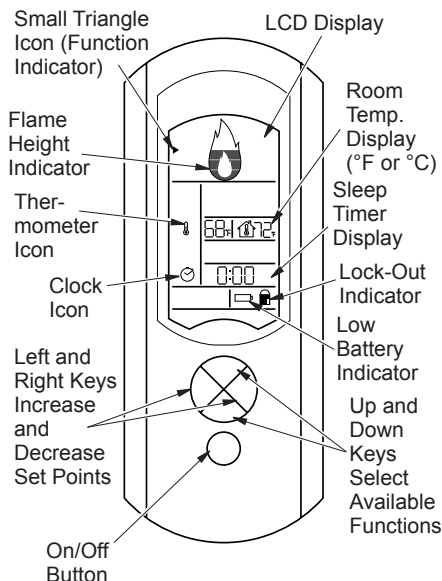

Figure 29 - Remote Control
12. Press the up or down key until the small triangle is to the left of large flame icon at the top of LCD display (see Figure 29, page 20). Press the left or right key to set the desired flame height.
2. Press the ON button on remote control (see Figure 29, page 20). Wait 5 seconds to send a command to appliance.
1. Press the up and down key until the small triangle is to the left of the clock icon (see Figure 29).
2. From time 0:00, press the left key 10 times. The display will then show the transmitter address (frequency).
Press the up or down key until the small triangle is to the left of large flame icon at the top of LCD display (see Figure 29). Press the left or right key to set the desired flame height. Six flame levels are available from 1 (minimum) to 6 (maximum).
Press the up or down key until the small triangle is to the left of the thermometer icon (see Figure 29). Press the left or right key to set the desired room temperature.
Press the up or down key until the small triangle is to the left of the clock icon (see Figure 29). Press the left or right key to set the desired sleep time. Maximum sleep time is 90 minutes, in 15 minute increments. When desired time is set, press the up or down key to start the timer. When the desired time has elapsed, the appliance will automatically switch off.
To lock the remote control keys, press the On/Off key then immediately press the up key (see Figure 29). The lock-out function is active when the lock icon is lit. Repeat key sequence to unlock keys.
A battery icon will be displayed on the LCD display when batteries are low in the remote control (see Figure 29).